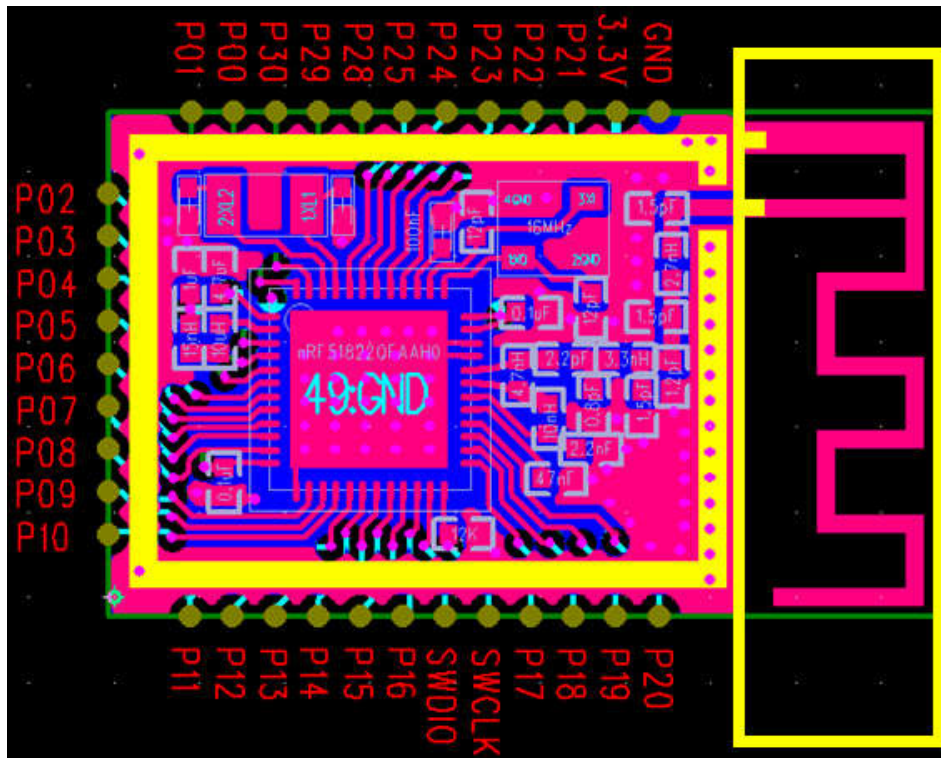

Figure 4
Such as RF-BM-N16-B1DIC naming rules as shown in figure 4, including the module of RAM capacity 16 KB, with 32.768 KHz crystal oscillator, the FCC ID belongs to Defond, and with IC certification ID.
Figure 4 module naming rules, for example
- 3、It is best to hollow out the green boxes position in figure 4, to ensure its S11 affects is very small.